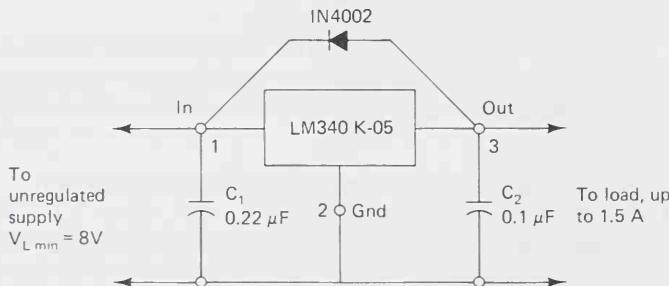

FIGURE 15-11 A TTL digital logic regulated power supply (5 V at 1 A.)
A +5 V digital power supply for TTL logic or certain microprocessors is shown in Fig. 15-11. The K package of the LM340-05 is a steel TO-3 case and should be heat sunked for a case-to-ambient thermal resistance of a $6^{\circ}\text{C}/\text{W}$ or less. This means that you should use a 0.002-in.-thick insulating mica washer with a good thermal joint compound (Wakefield Thermalloy Thermocote) between the TO-3 case and its heat sink (or use the chassis as a heat sink).
V_{Lmin} for the unregulated FWB supply should allow 3 V of headroom and should be greater than $(3 + 5) \text{ V} = 8 \text{ V}$ (see Fig. 15-11). Choose a 12.6-V transformer at $(1.8 \times 1 \text{ A})$ at a 2-A current rating. From Sections 15-2 and 15-3: (1) $V_{\text{dcNL}} =$